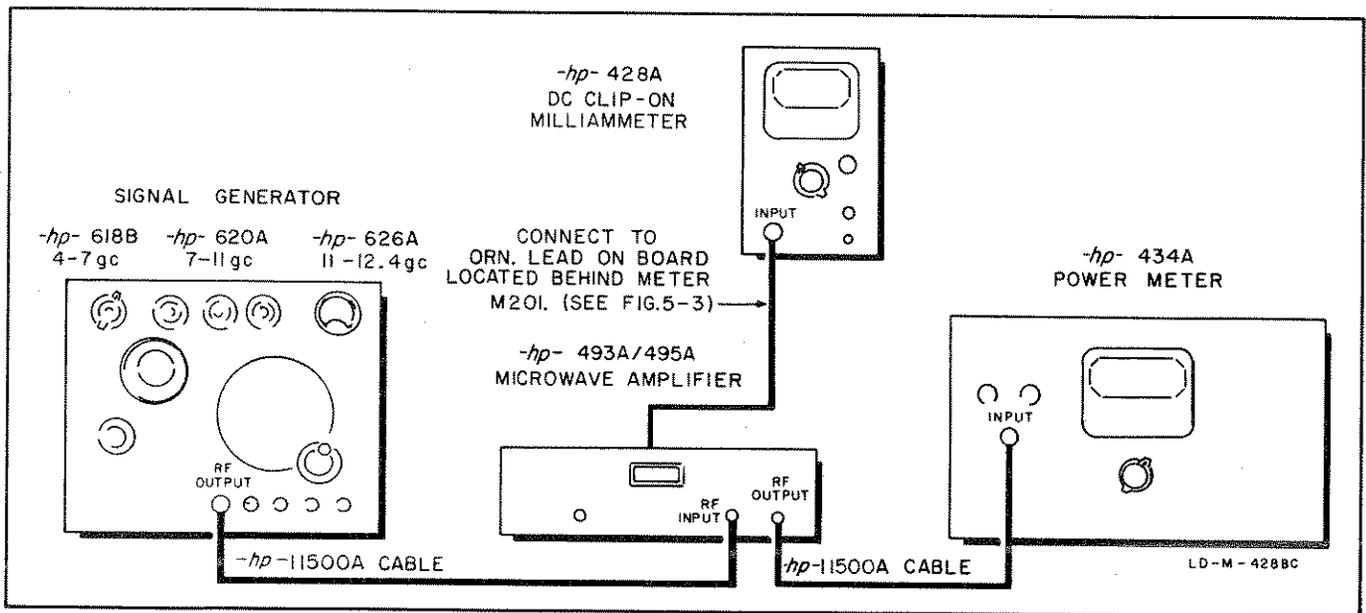

Figure 5-5. Power Amplification Setup
a. Set up the Model 493A as shown in figure 5-5.
- b. Connect the Model 493A as shown in figure 5-5. Milliammeter not necessary for this check. Refer to table 5-1, Test Equipment Required.